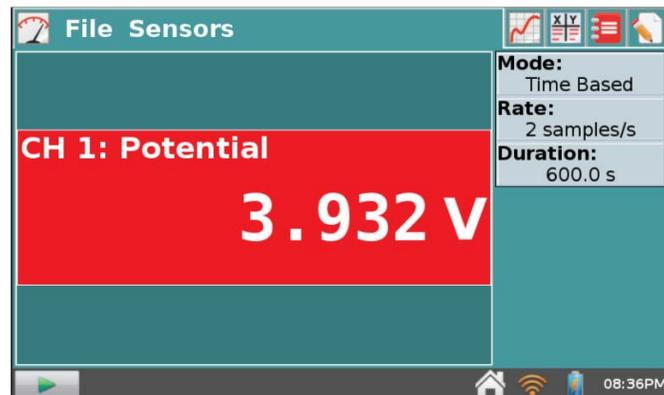

Figure 7 – LabQuest screen showing parameters (at left) for 'pumpdown' data acquisition file.
- Tap the ‘Open’ button on the lower right hand corner of the screen to load the data acquisition file. Notice that at the left side of the LabQuest display the ‘Rate’ now reads ‘2 samples/s’ and the ‘Duration’ reads ‘600.0 s’ (Fig. 7).